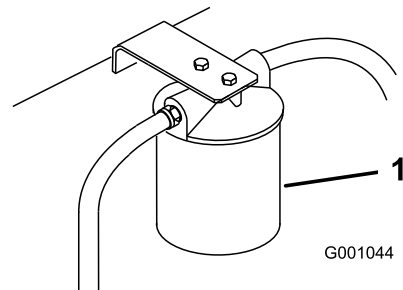

Figure 60
4. Place drain pan under filter, remove the old filter and wipe the filter adapter gasket surface clean (Figure 60).